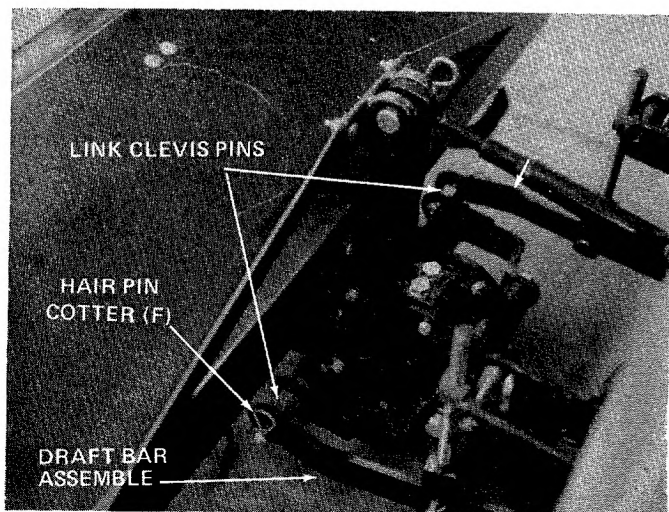

FIGURE 22
12. Place the right and left hand draft bar assemblies over the link clevis pins on tiller and secure with hair pin cotters (F) provided. See figure 22.